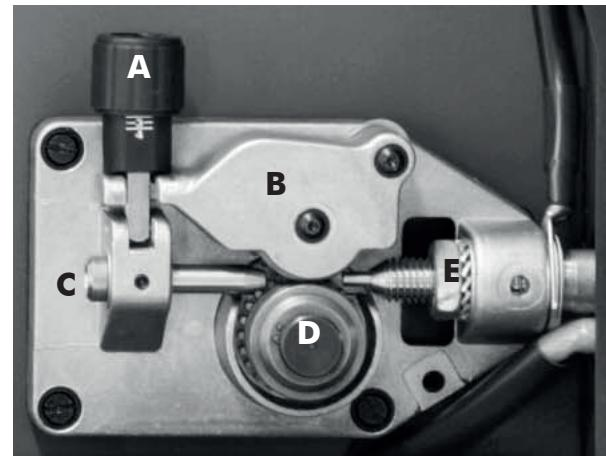

Figure 6
- Loosen and lower the plastic knob (A) (Fig.6). Open the pressure arm (B) of the feeder. Extract the wire from the torch liner.